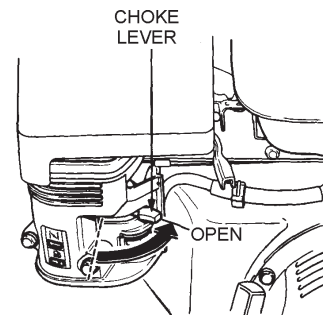

Figure 12. Engine Choke Lever (Open)
4. Place the **choke lever** (Figure 12) in the "OPEN" position if starting a **warm engine** or the **temperature is warm**.